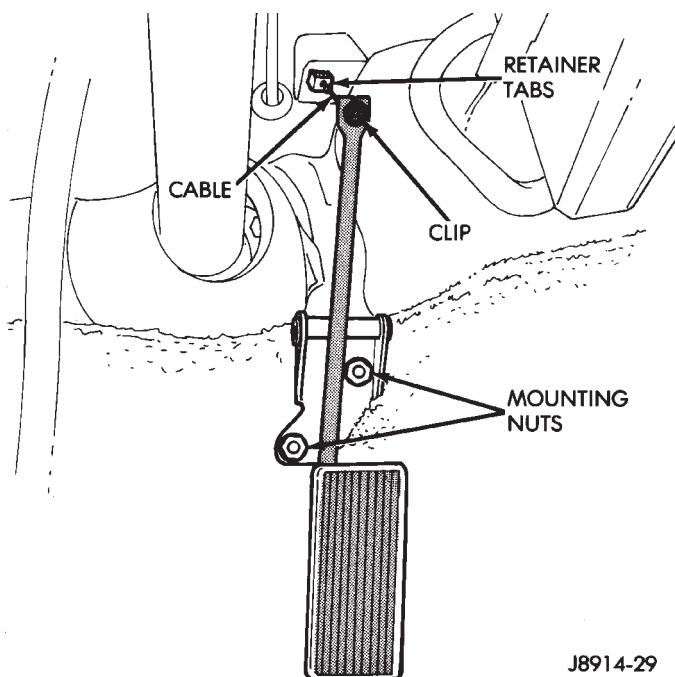
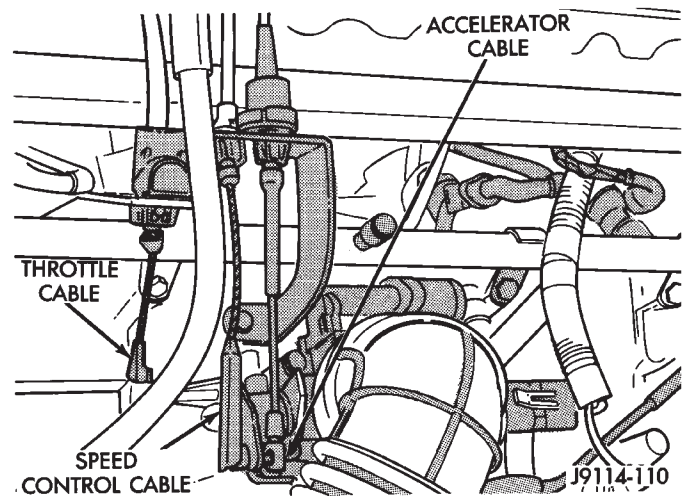

Fig. 10 Accelerator Pedal Mounting—Typical
Fig. 11 Throttle (Accelerator) Cable—Typical
The accelerator pedal is connected to the throttle body linkage by the throttle cable. The cable is protected by a plastic sheathing and is connected to the throttle body linkage by a ball socket. It is connected to the upper part of the accelerator pedal arm by a plastic retainer (clip) (Fig. 10). This retainer (clip) snaps into the top of the accelerator pedal arm. Retainer tabs (built into the cable sheathing) (Fig. 10) fasten the cable to the dash panel.
(1) From inside the vehicle, hold up accelerator pedal. Remove plastic cable retainer (clip) and throttle cable core wire from upper end of accelerator pedal arm (Fig. 10). Plastic cable retainer (clip) snaps into pedal arm.
(2) Remove accelerator pedal mounting bracket nuts. Remove accelerator pedal assembly.
(2) Remove the cable core wire at pedal arm.
(3) From inside the vehicle, pinch both sides of the cable housing retainer tabs (Fig. 10) at the dash panel. Remove cable housing from dash panel and pull into the engine compartment.
(4) Remove cable from clip on the engine cylinder head (valve) cover.
(5) Remove the throttle cable ball end socket at throttle body linkage (snaps off) (Fig. 11).
(6) Remove throttle cable from throttle body mounting bracket by compressing retainer tabs and pushing cable through hole in bracket. Remove throttle cable from vehicle.